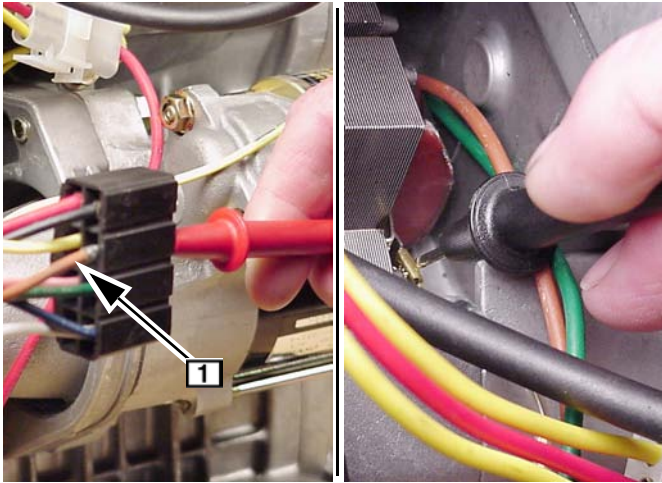

Fig. 16
4. Insert **RED** test lead into ground wire terminal (brown wire) **1** receptacle in engine harness, Fig. 16. Leave attached for remainder of test.